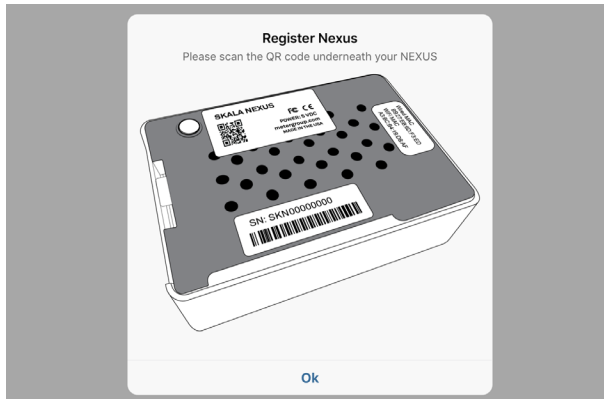

Figure 14 Register NEXUS window
3. Select **Ok** in the Register NEXUS popup window (Figure 14).